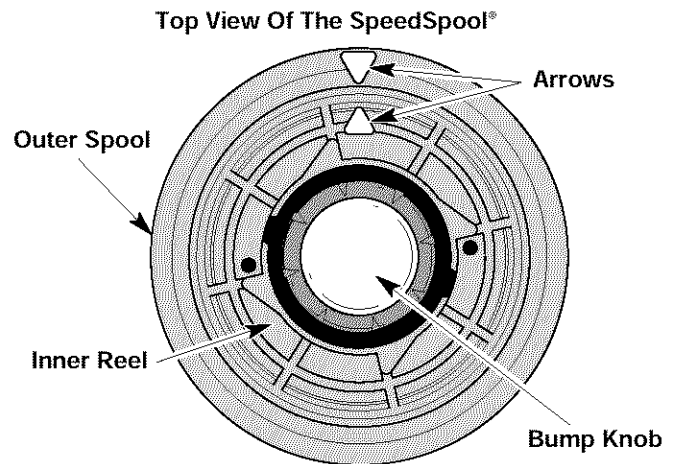

Fig. 20
2. Hold the outer spool and turn the inner reel counterclockwise to line up the arrows on the outer spool and inner reel (Fig. 20).